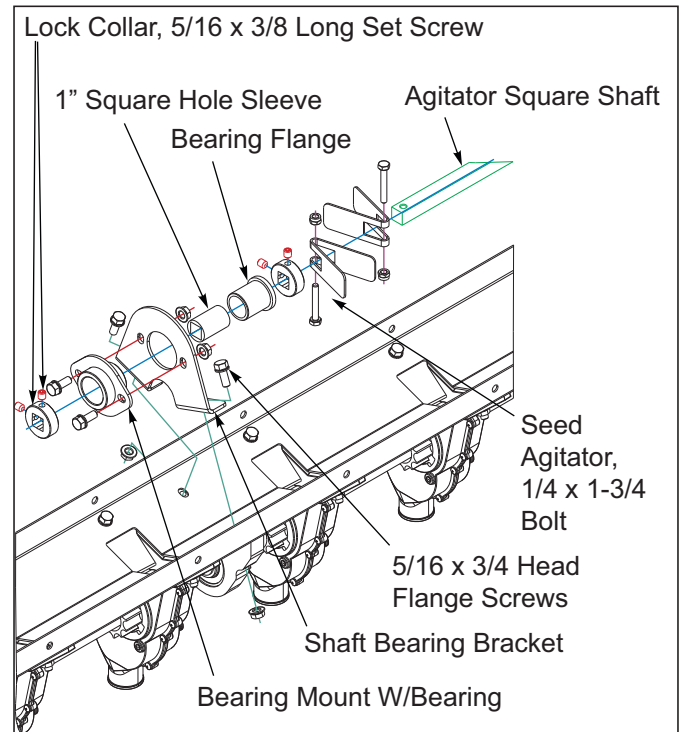

Figure 3-8: Middle Bearing Mount Installation
8. Assemble a bearing mount w/bearing into the agitator shaft bearing bracket with 5/16 x 3/4 flange head screws. The flange will be on the opposite side of the agitator formed ears. This will be the center support for the square agitator shaft. This assembly will be approximately centered in the seed box between the meters. The holes will need to be drilled in the bottom of the seed box. Do not drill the holes until the rest of the agitator is assembled to be able to properly center the bearing **See Figure 3-8.**